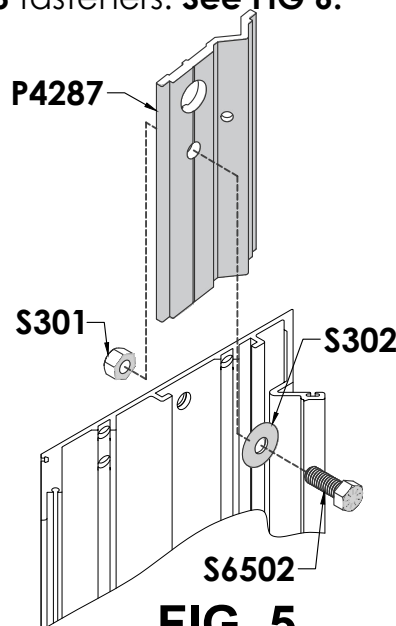

FIG. 5
- d. Insert Lifting Lug into a vertical member from the top, align clearance hole and attach using **S6502/S302** into **S301**. **See FIG. 5**